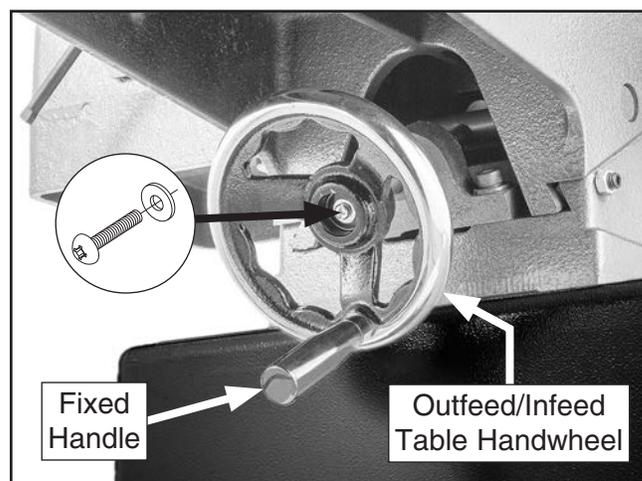

Figure 23. Table handwheel installed.
18. Install fixed handles on both handwheels, then install outfeed/infeed table handwheels using (2) 10-24 x 1/2" pre-installed Phillips head screws and #10 flat washers (see **Figure 23**).